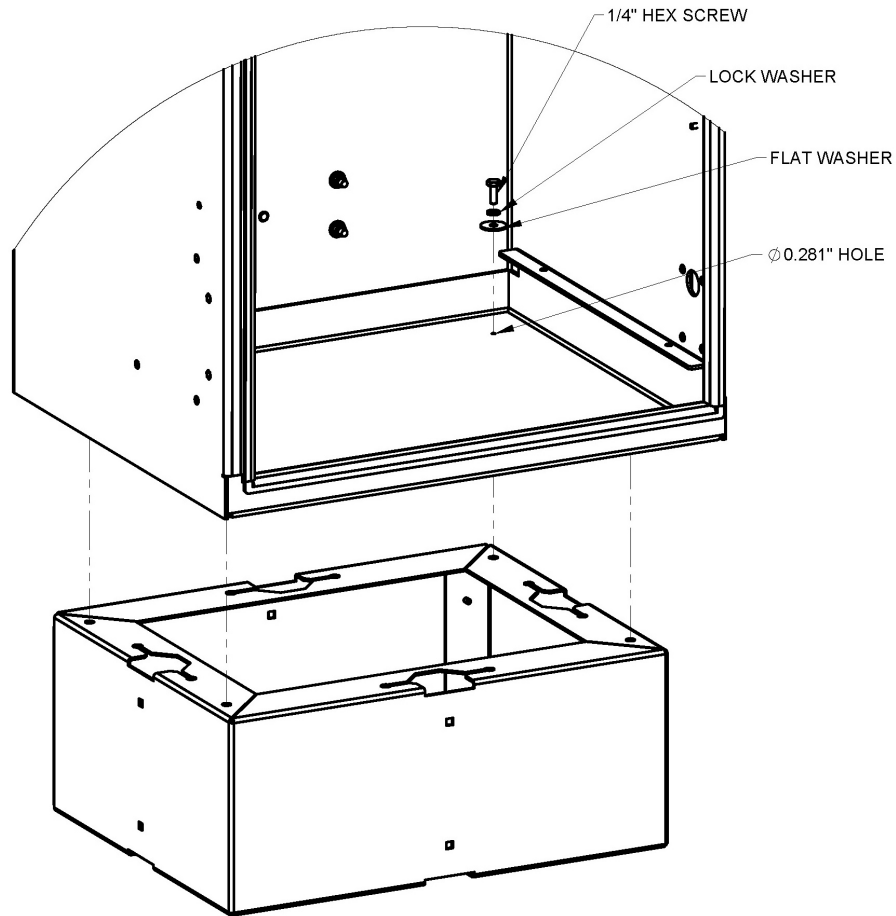

Figure 9: Securing enclosure to the plinth
6. Secure the enclosure to the plinth with the supplied 0.25 inch hardware. Torque bolts to 7 Nm (65 in-lb). See Figure 9.